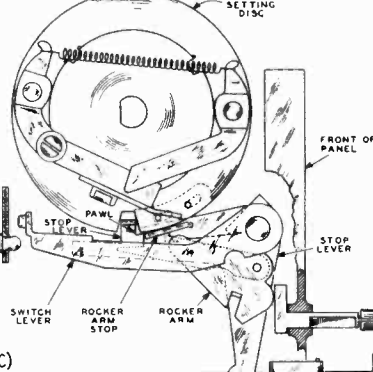

Fig. 10—Setting Disc—Stop Lever in Notch
- (88) Referring to Fig. 10, the entry of the stop lever into the notch on the setting disc has raised the switch lever until the motor switch is in the Upper Off position. The motor stops and the setting disc is held by the stop lever in the notch. The rocker arm stop still rides on the edge of the setting disc and is no longer lined up with the stop lever.